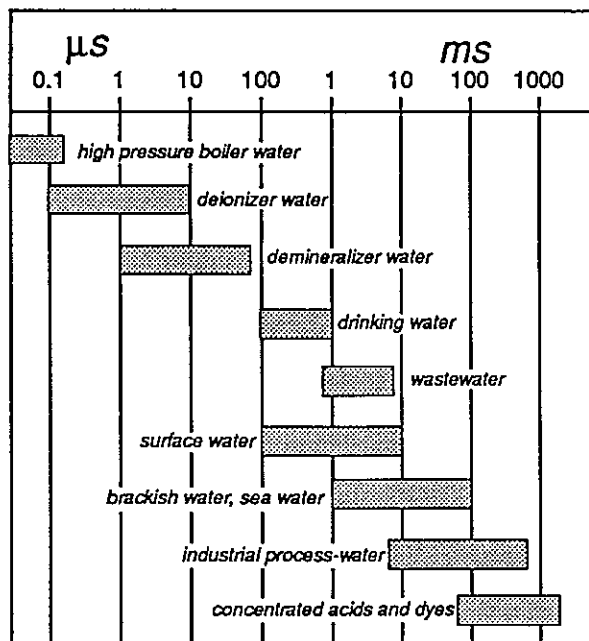

Figure 8 – Ranges of Common Aqueous Solutions
By defining the physical parameters of the measurement, a standard measure is created. The standard measure is referred to as specific conductance or conductivity, which is defined by the reciprocal of the resistance in ohms, measured between the opposing faces of 1 cm cube of liquid at a specific temperature. The units used to define conductance are: $1/\text{ohm} = 1 \text{ mho} = 1 \text{ Siemen (S)} = 1000 \text{ mS} = 1,000,000 \mu\text{S}$. The conductivity value is obtained by multiplying the conductance value by the cell constant. See Figure 8 for Conductivity Ranges of Common Aqueous Solutions.